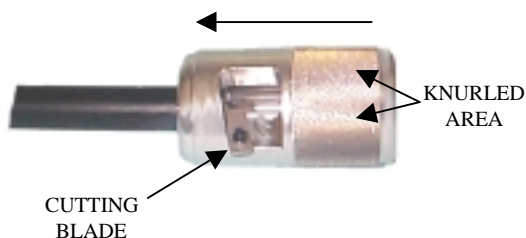

Fig. 1
Step 1. (Fig. 1) To remove the cable jacket, hold the knurled end of the JST and place the blade end of the tool onto the cable. *Engage the blade into the cable jacket. Do not force the blade over the jacket.*